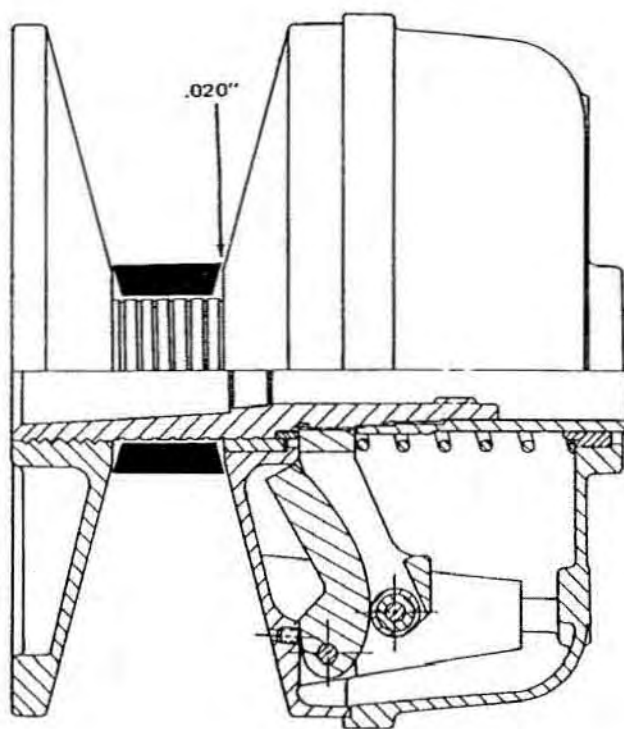

Fig. 3
3. Adjustment of Clutch/Belt Neutral Position. The distance between the belt and the movable sheave on the drive clutch is very critical. This distance controls the starting ratio (lowest starting ratio is preferable) and also controls the position of the clutch weight to engine RPM. The distance between the belt and movable sheave should be approximately .020", Fig. 3. This adjustment is controlled by the set screws on the movable face and the spacers under the spider.